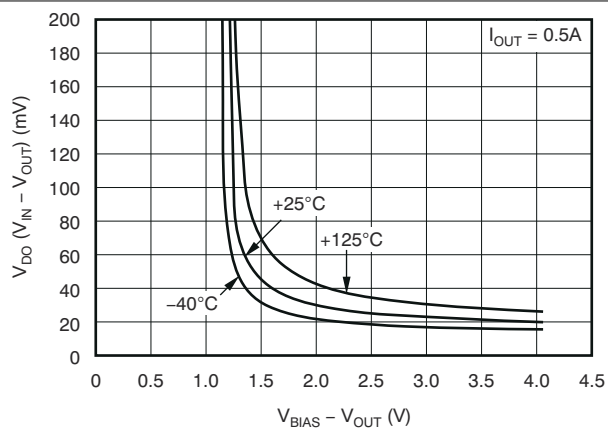

Figure 6-6. Dropout Voltage vs  $(V_{BIAS} - V_{OUT})$  and Temperature ( $T_J$ )
- (1) Adjustable devices tested at 0.8 V; resistor tolerance is not taken into account.
(2) Dropout is defined as the voltage from  $V_{IN}$  to  $V_{OUT}$  when  $V_{OUT}$  is 3% below nominal.
(3) 3.25 V is a test condition of this device and can be adjusted by referring to Figure 6-6.